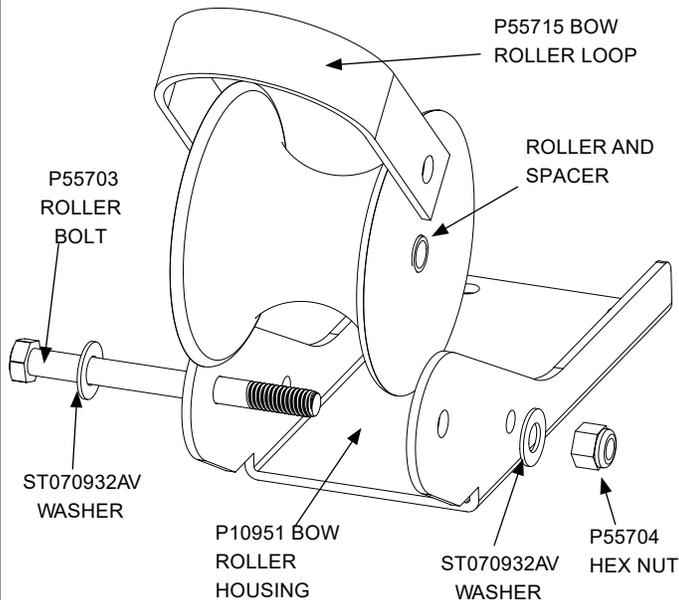
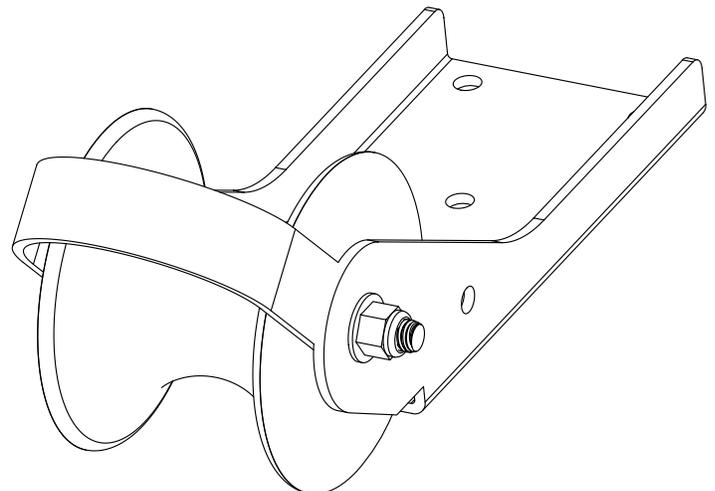

FIGURE 2. ASSEMBLING ROLLER INTO HOUSING
FIGURE 3. COMPLETELY ASSEMBLED BOW ROLLER
- Insert bow roller and spacer into P10951 Bow Roller Housing along with P55715 Bow Roller Loop as shown in Figure 2. Make sure that the loop fits inside the bow roller housing, not outside. Secure with P55703 Roller Bolt, ST070932AV Washers (one per side) and P55704 Hex Nut. The completely assembled bow roller is shown in Figure 3.